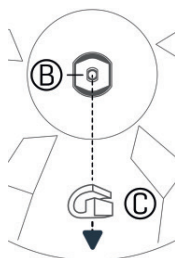

Figure 2
- 1 Unscrew the bottom nut (D) from the Hi-Hat Clutch (A).
- 2 Attach the spin lock (B) to the shaft of the top part of the clutch (A).
- 3 Guide clutch and spin lock through the middle hole of the Top Cymbal (C).
- 4 Orient the spin lock (B) inside the cymbal mold as shown in *Figure 2*.
- 5 Screw the bottom nut (D) onto the shaft of Clutch (A) again and clip the clutch bumper (E) on the bottom nut (D).
- 6 Lightly clamp the cymbal by fastening the top nut (A).